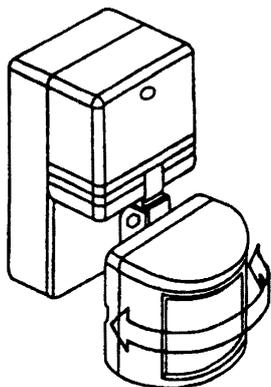

Fig. 5 Right and left
3. With the sensor head set horizontally, point it toward the area to be covered. Walk across this area and observe the switching action of the connected lights. The lights should go on when you enter the detection area. Adjust the sensor head from left to right (Fig. 5) or up and down (Fig. 6) until satisfactory detection range is obtained, Please note that tilting the sensor head downward will reduce the range, upward will increase it.